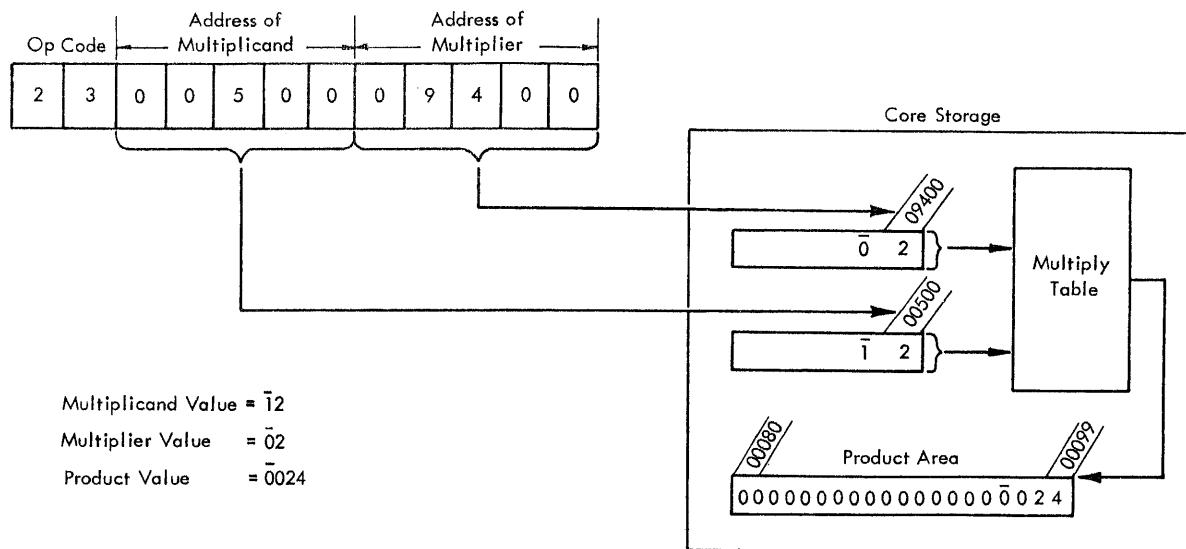

Figure 13. Multiply Instruction - Data Flow
In Figure 13, the multiplicand (12) at 00500 is multiplied by the multiplier (02) at 09400. The product (0024) is developed and stored at 00096-00099.